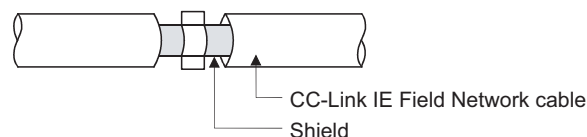

Figure 9.8 CC-Link IE Field Network cable grounding
- Because the CC-Link IE Field Network cable is a shielded type, strip part of the jacket as shown in Figure 9.8 and ground the exposed shield section to the ground as much as possible.